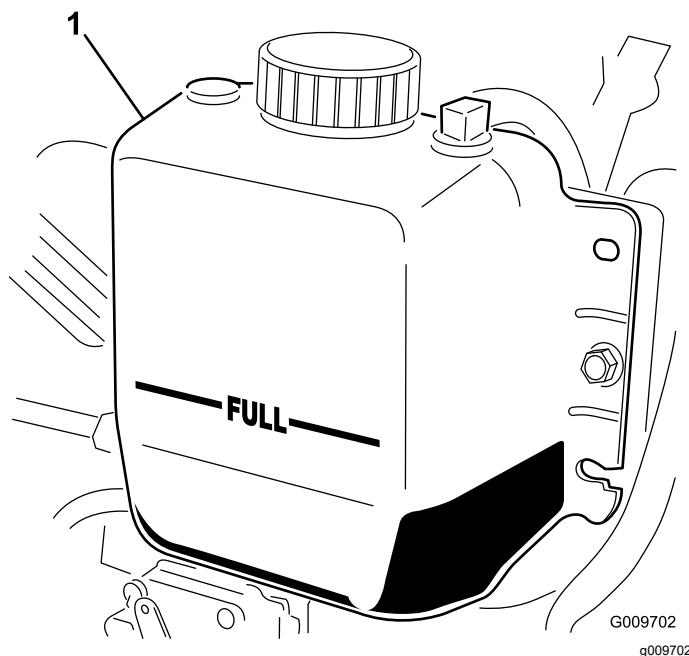

Figure 34
2. Check the coolant level in the radiator. The radiator should be filled to the top of the filler neck and the expansion tank filled to the FULL mark (Figure 34).